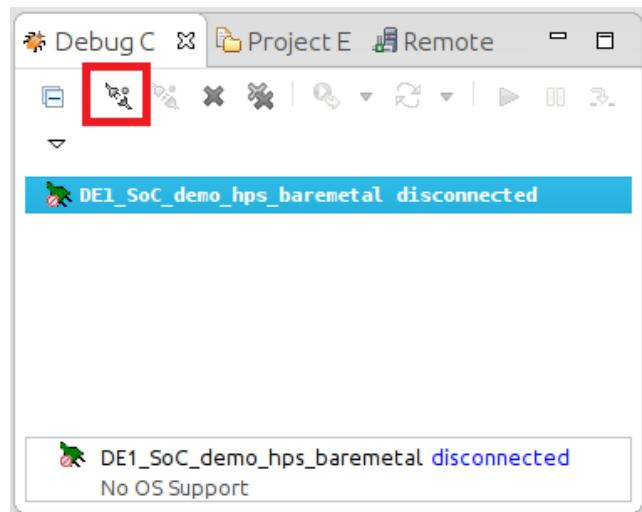

Figure 8-35. Debug Control View
29. In the “Debug Control” view, click on the “DE1_SoC_demo_hps_baremetal” entry, then click on the “Connect to Target” button, as shown on Figure 8-35. Our debug script will load and execute the preloader, then it will load and wait at our application’s “main()” function.